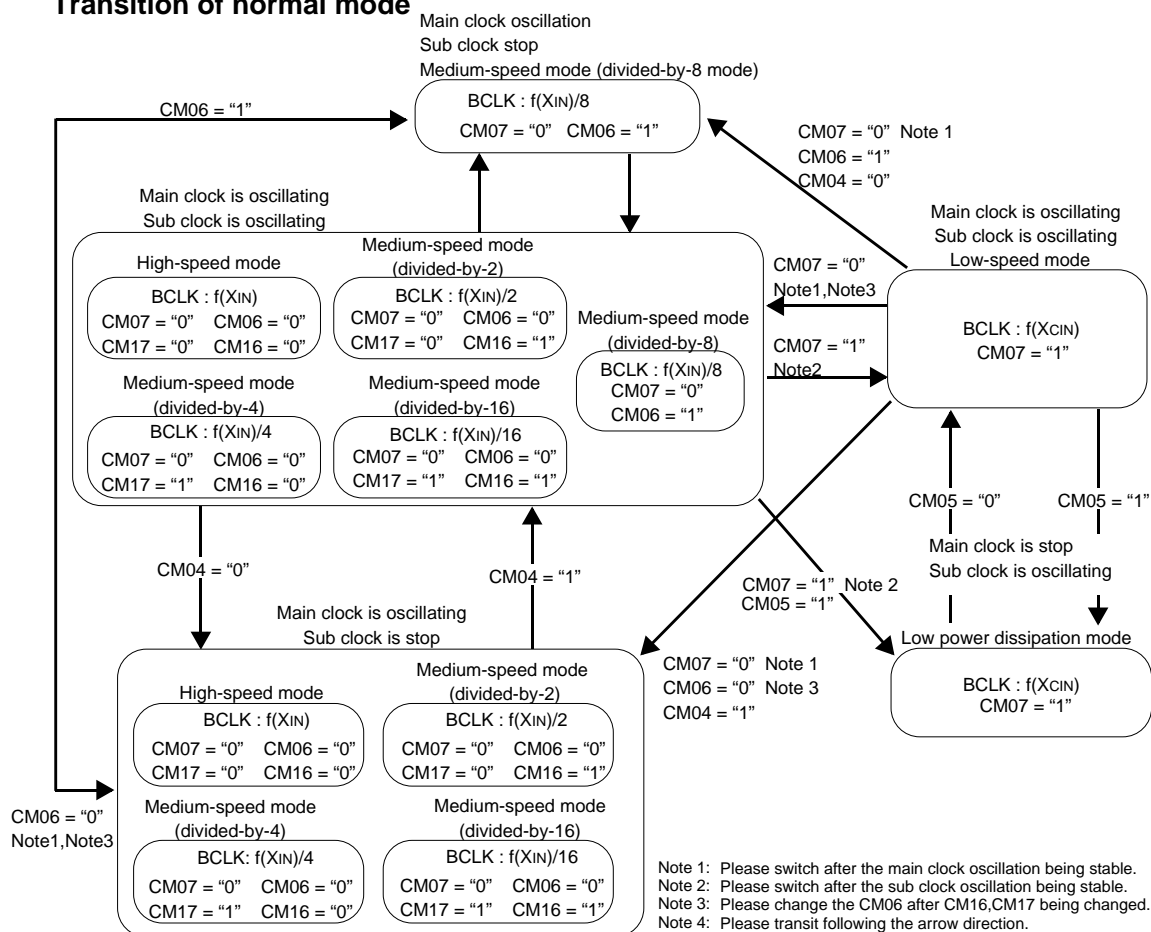

Fig.WA-5 State transition diagram of Power control mode
Fig.WA-5 is the state transition diagram of (1) to (3).